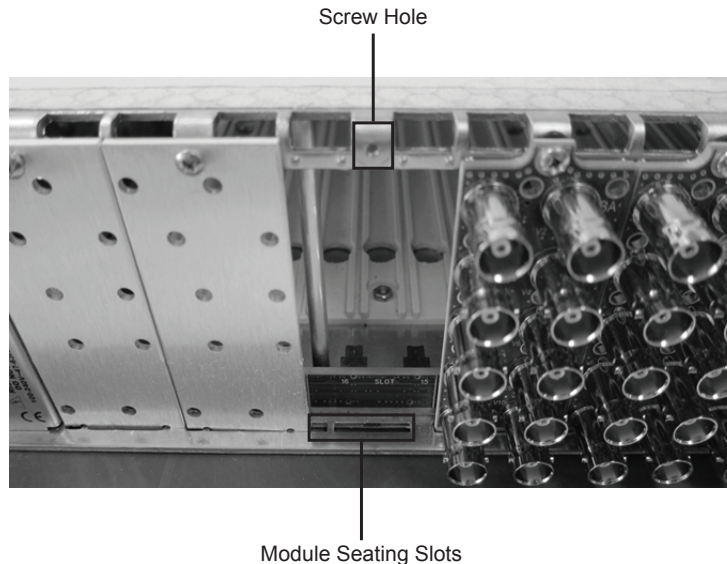

Figure 2.1 Rear Module Installation in an openGear Frame (Card not shown)
4. As shown in **Figure 2.1**, seat the bottom of the rear module in the seating slot at the base of the frame’s back plane.